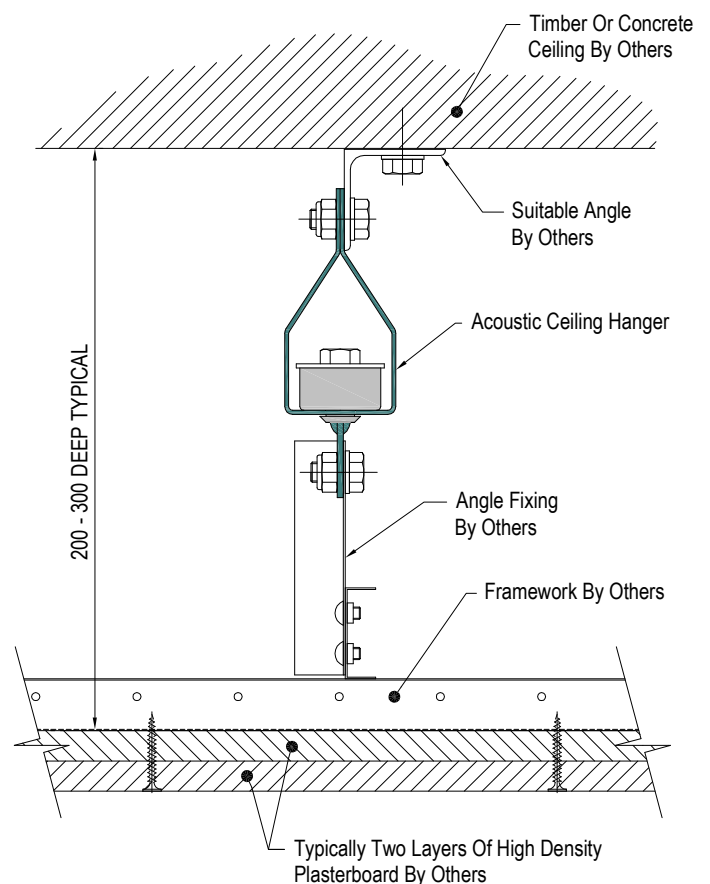

Figure 1
- 2) Drop wires or channel frame fixings should then be used to support the lower ceiling grid with typical grid spacings of 600mm or 1200mm, ensuring the full weight of the suspended ceiling can be taken by the hangers and the connection frame fixings or drop wires (See Figure 1).